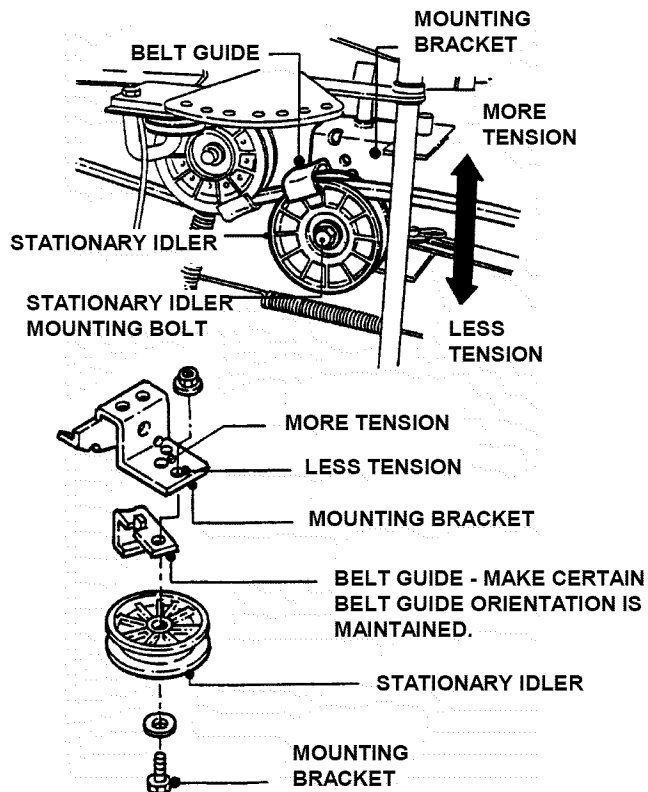

FIGURE 4.22
4. Remove the traction drive belt stationary idler mounting bolt. See Figure 4.22.
NOTE: Should less tension be required move stationary idler towards right side of tractor. See Figure 4.22.